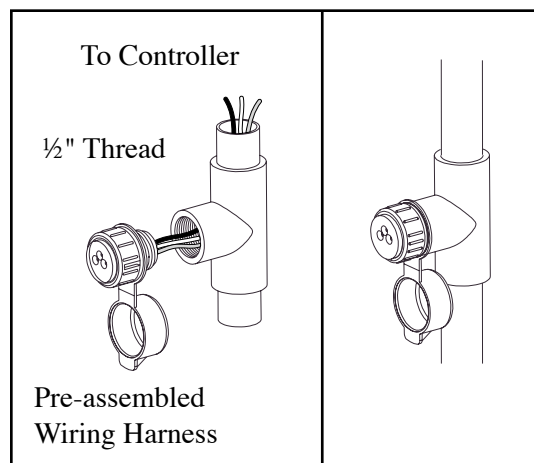

Fig. 1
- 2) Feed the red, white and blue wires of the harness through the base of the "Tee" and into the controller wiring compartment as shown in Figure 1.
- 3) Screw the harness housing into the "Tee" (or other fitting) as shown in Figure 1.